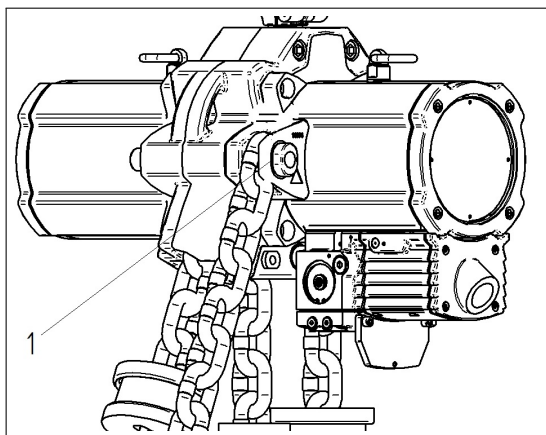

Figure 8: Dead end chain mount
The last link of the dead end chain mount (un-loaded chain end) is attached to the empty strand anchorage (↔ Figure 8 (1)). This serves the purpose that the empty chain strand does not dangle so long and thus cannot lead to the hazardous situations listed above.